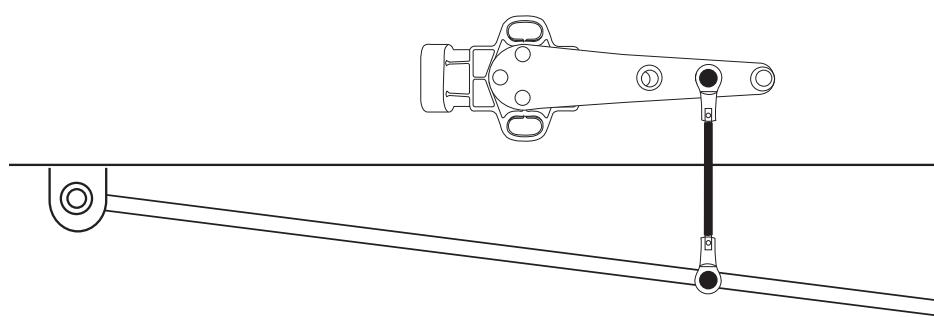

Fig. 17
9. Assemble linkage back together, and fasten it to the sensor arm and lower mounting location with supplied hardware (Fig. 17). Temporarily secure the sensor in its intended location including using the height sensor spacer that is provided.